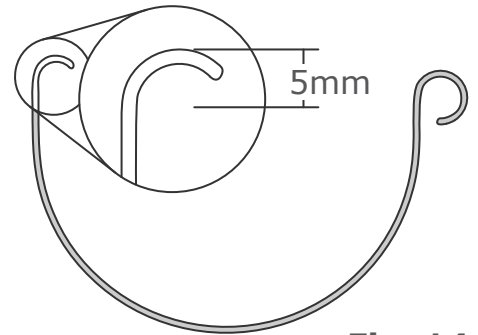

Fig. 14
9.1. Take care not to exceed the notch depth (Fig. 14) and avoid cutting into the gutter's front facing bead.